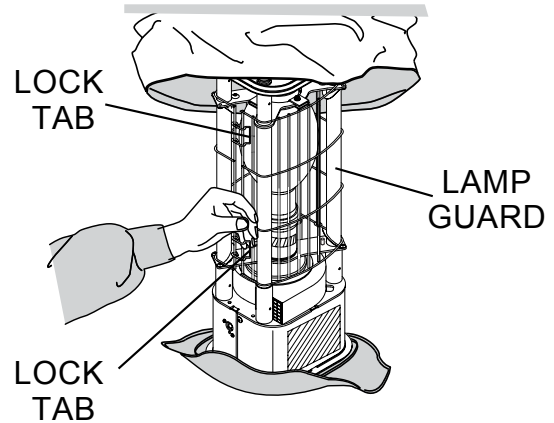

Figure 37. Releasing Lamp Guard Locking Tabs
6. Release the lamp guard locking tabs (Figure 37).